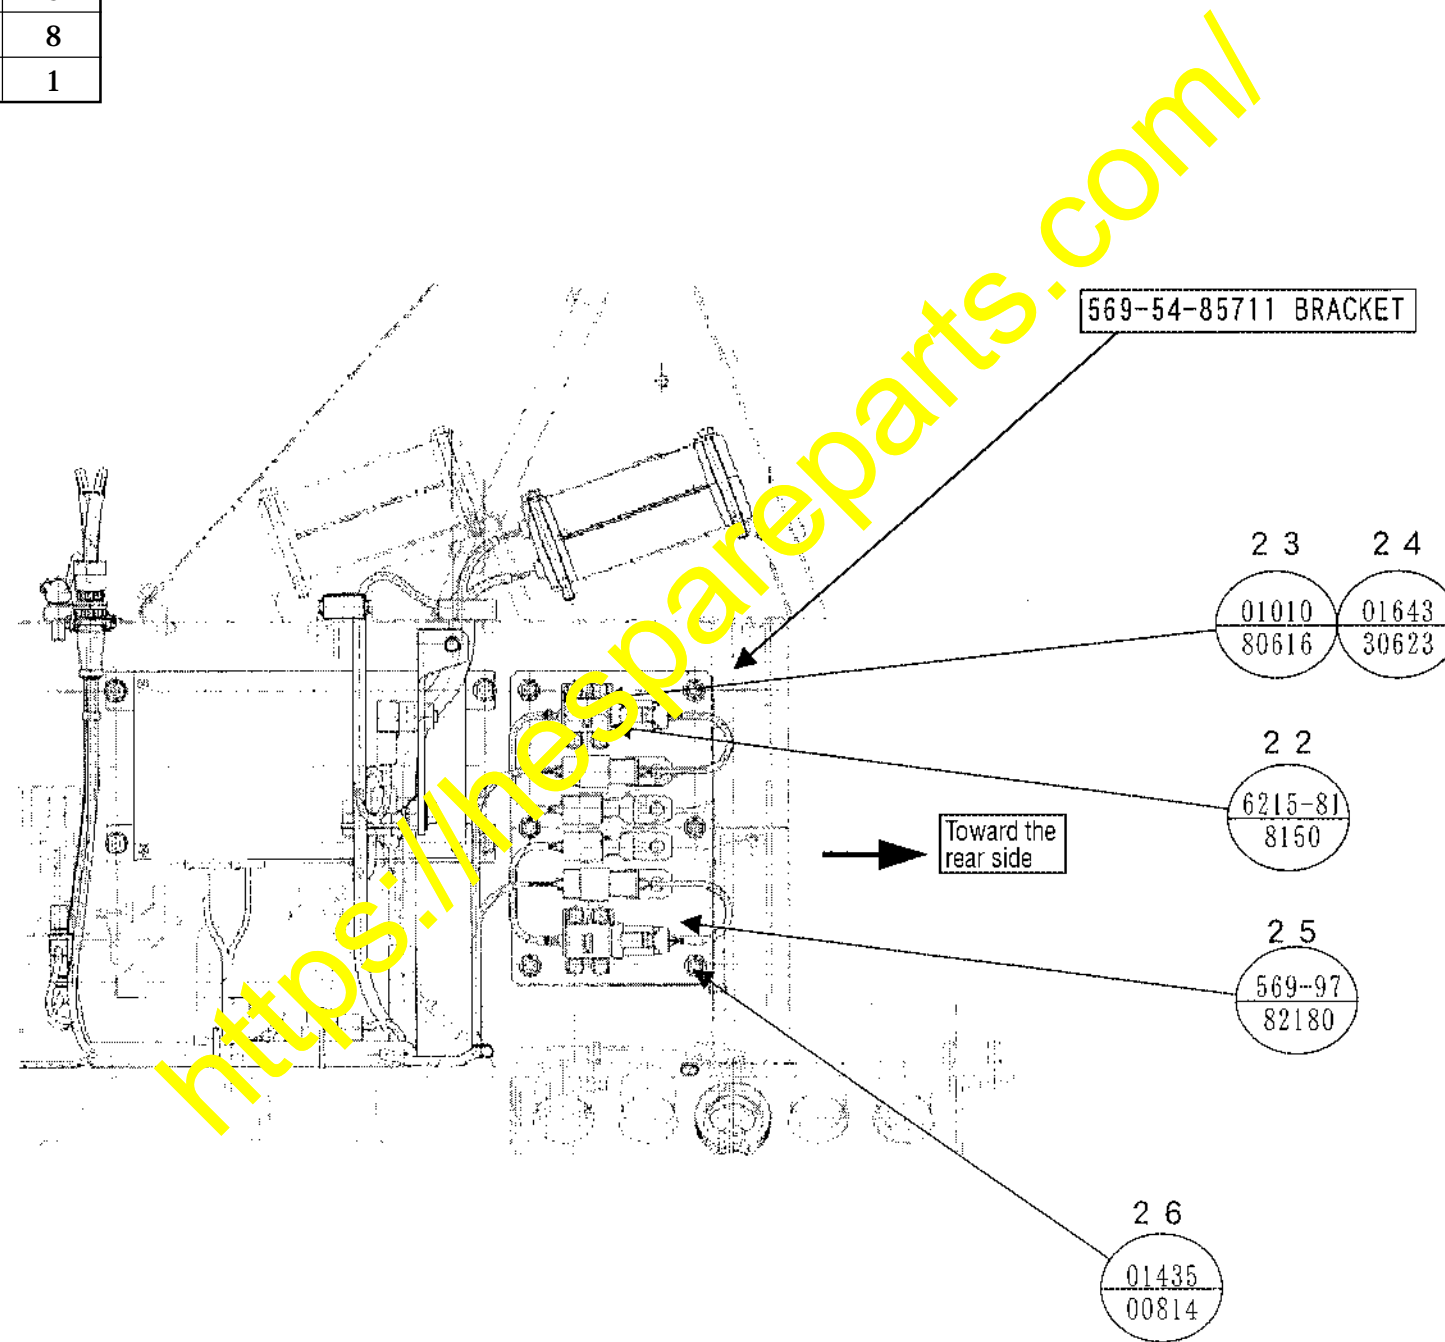

Fig. 2-4 Installation procedure for the download connector related parts inside the operator's cab
- (1) Remove the controller and controller bracket from the inside of the box positioned in the rear section inside the operator's cab. (Refer to Fig. 2-3 (1) and Fig. 2-4 (2). Do not lose these parts since all of them are being reused.)
- (2) Install the ORBCOMM controller, Item No. Δ 160 (7826-12-2200) to the existing bracket (569-54-85711) by use of the bolt, Item No. 161 (01010-80816) and the washer, Item No. 162 (01643-30823).
- (3) Connect the ORBCOMM controller, Item No. 160 (7826-12-2200) and the connector No. HM-81A of the VHMS main harness, Item No. 4 (569-97-82210) by the ORBCOMM controller harness, Item No. 163 (569-97-82260).